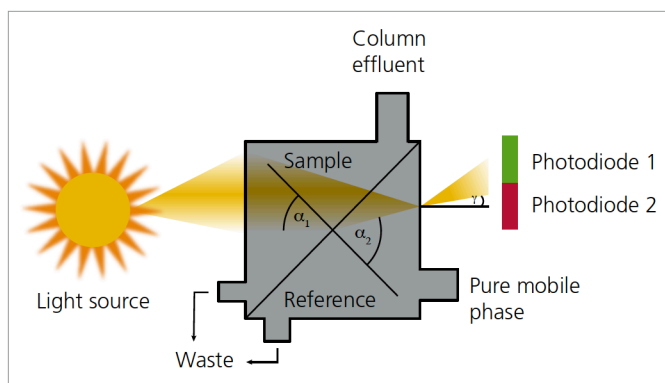

Figure 4. A schematic illustrating RI detection. Adapted from researchgate.
The refractive index (RI) detector is the original and oldest detector used for LC and is revered due to its truly universal detection capabilities. RI detectors measure the difference in optical refractive index between the mobile phase and the sample. As can be seen from Figure 4, there is a reference cell and sample cell. The reference cell is purged with mobile phase prior to analysis where a valve is used to then direct the column effluent through the sample cell. As light passes through the two detector cells it is refracted differently, measured by a pair of photodiodes that convert the signal to a measurable output voltage. While long ago they were considered a chromatographic mainstay, RI detectors are limited in comparison to other detection techniques due to a lack of sensitivity and gradient incompatibility issues.^{5,18}